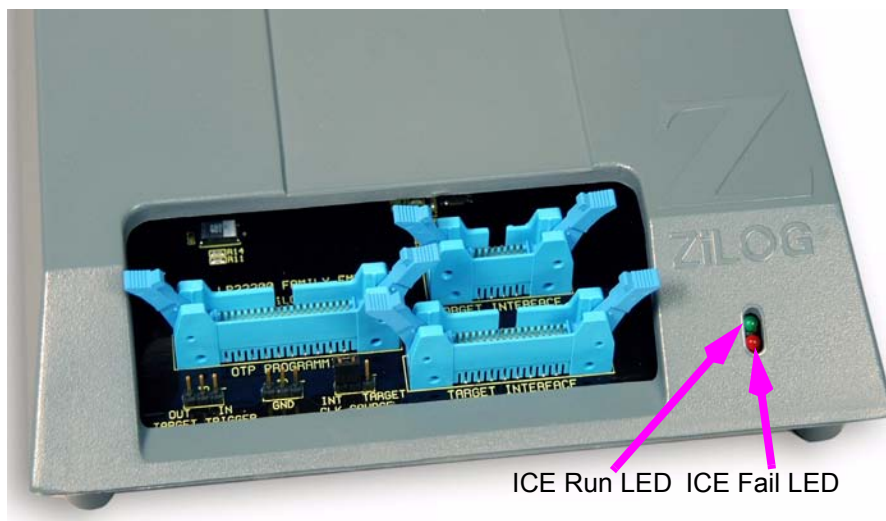

Figure 6. Crimzon ICE Front-Panel
3. Connect a 5VDC power supply to the Crimzon ICE. The 3.3VDC should illuminate (see Figure 3). If the 3.3VDC LED failed to illuminate or the ICE Fail LED illuminates (see Figure 6), there is a problem with the unit. Contact ZiLOG support at <http://www.zilog.com> for a replacement unit.